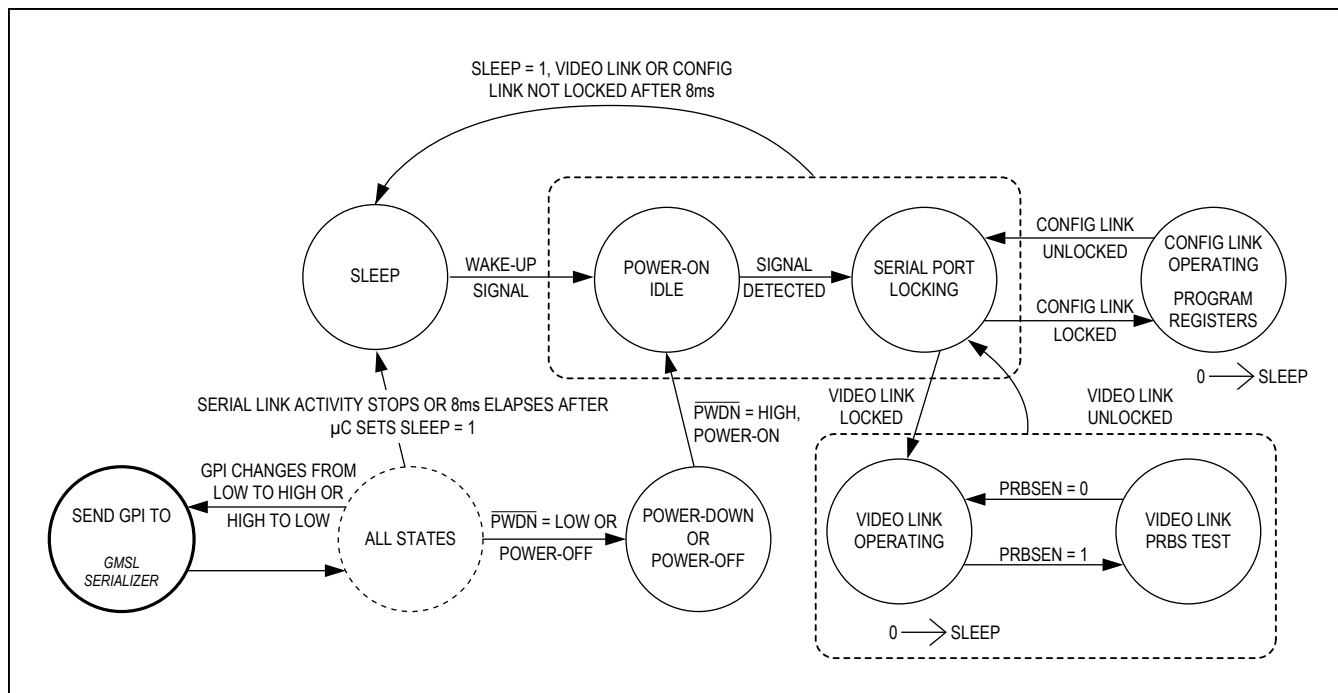

Figure 47. State Diagram
Table 24. Startup Procedure (see Figure 47)
**Table 24. Startup Procedure (see Figure 47) (continued)**